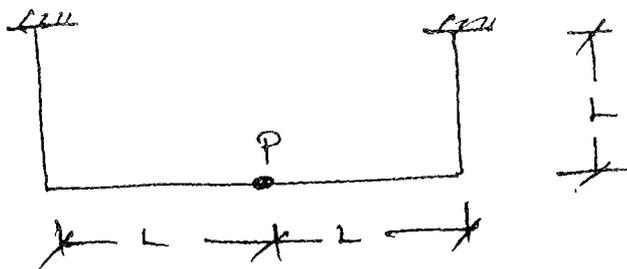

Fig. 12 (b)
- (b) Analyse the curved beam in plan shown in Fig. 12 (b) and draw the SFD and BMD. (Note : P is vertical load).